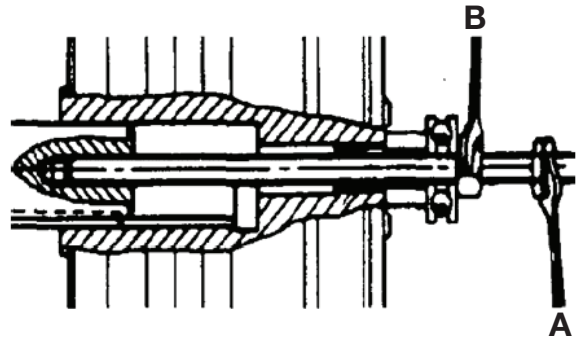

Figure 2 - Installation
Using the threaded bar as shown on Figure 2, and using two wrenches (hold wrench "A" and turn wrench "B" to draw the coupling on to the motor shaft). For a good mounting, make sure shafts are clean and without burrs, and lubricate the mating surfaces with oil or antiseizing grease. Note: In case of hot mounting (not recommended), do not reach a temperature above 195°F, or higher, which causes irreparable damages to oil seals.
2. Fit fluid coupling on motor shaft by using a threaded bar as shown on Figure 2 and using two wrenches (hold wrench "A" and turn wrench "B" to draw the coupling on the motor shaft).